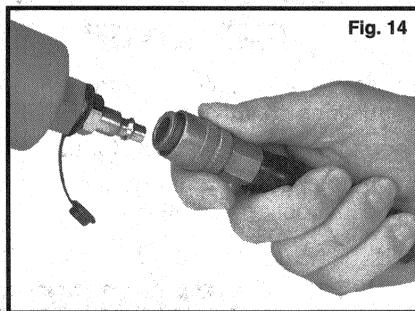

Fig. 14
1. After reading and understanding this entire manual, connect tool to air supply (see Fig. 14).